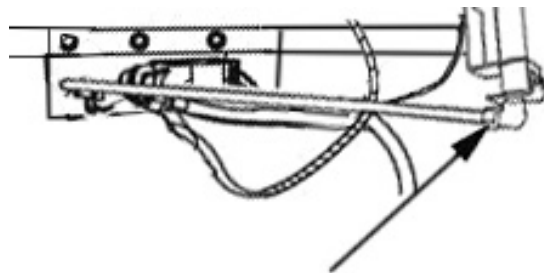

Figure 7
2. Disconnect the gas tube from the orifice and remove the orifice holder as shown in Figure 7.